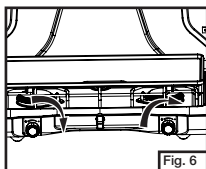

Fig. 6
- Close both burner valves firmly. (Fig. 6)